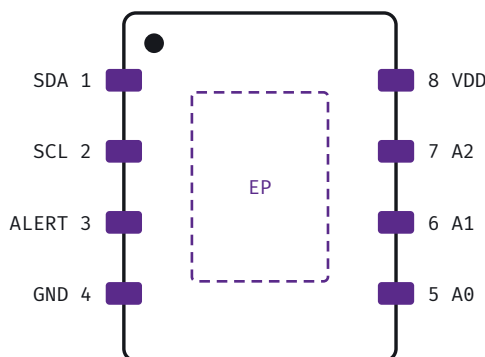

Figure 1. Pin configuration, 8-pin DFN, top view.
- 8-pin DFN, 2 × 2 mm, with an exposed pad (Figure 1)
Figure 1 shows the package from above. A dot on the top face marks pin 1, and the pins count counterclockwise from it. The exposed pad under the package is the sensor's thermal path to the board: solder it to a ground pour. **Table 2** describes each pin.